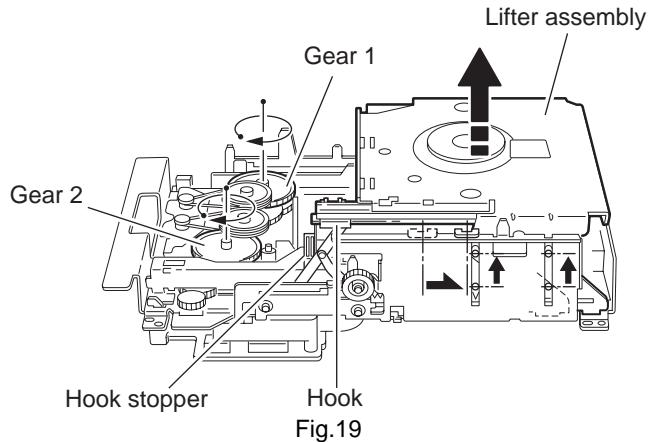

Fig.19
- Prior to performing the following procedure, remove the tray assembly and side (L)/ side (R) assembly.
- (1) From top of the body, turn the gear 1 clockwise to move the lifter assembly upward as shown in Fig.19.
- (2) From top of the body, turn the gear 2 clockwise to move the hook toward the front until it stops.
- (3) Move the hook stopper in the direction of the arrow while pushing the tab **o** of the hook stopper to unlock it. Release four joints **p** to detach from the rack holder. Release the rod from part **q**.
- (4) Turn the gear 1 clockwise again to move the lifter assembly upward.
- (5) Remove the lifter assembly from the body upward at position **r** where the four pins on the right and left sides of the lifter assembly fit to the notches of the **s**.